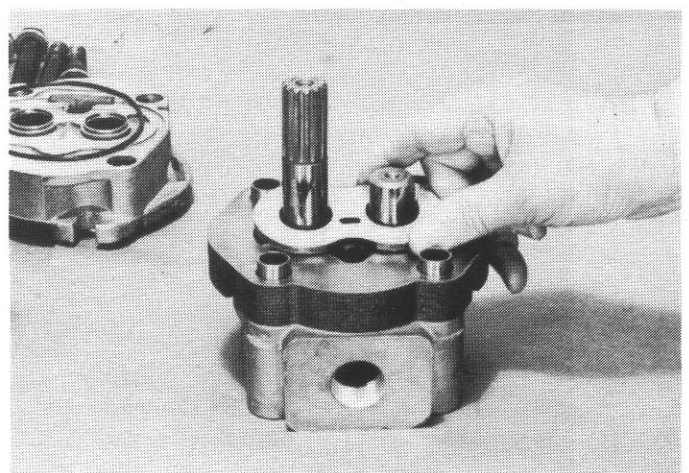

Fig. 19
23. Install o-ring (7) in pressure plate (8). With trap toward discharge side and bronze side down, place pressure plate down against gear faces. (Fig. 19)